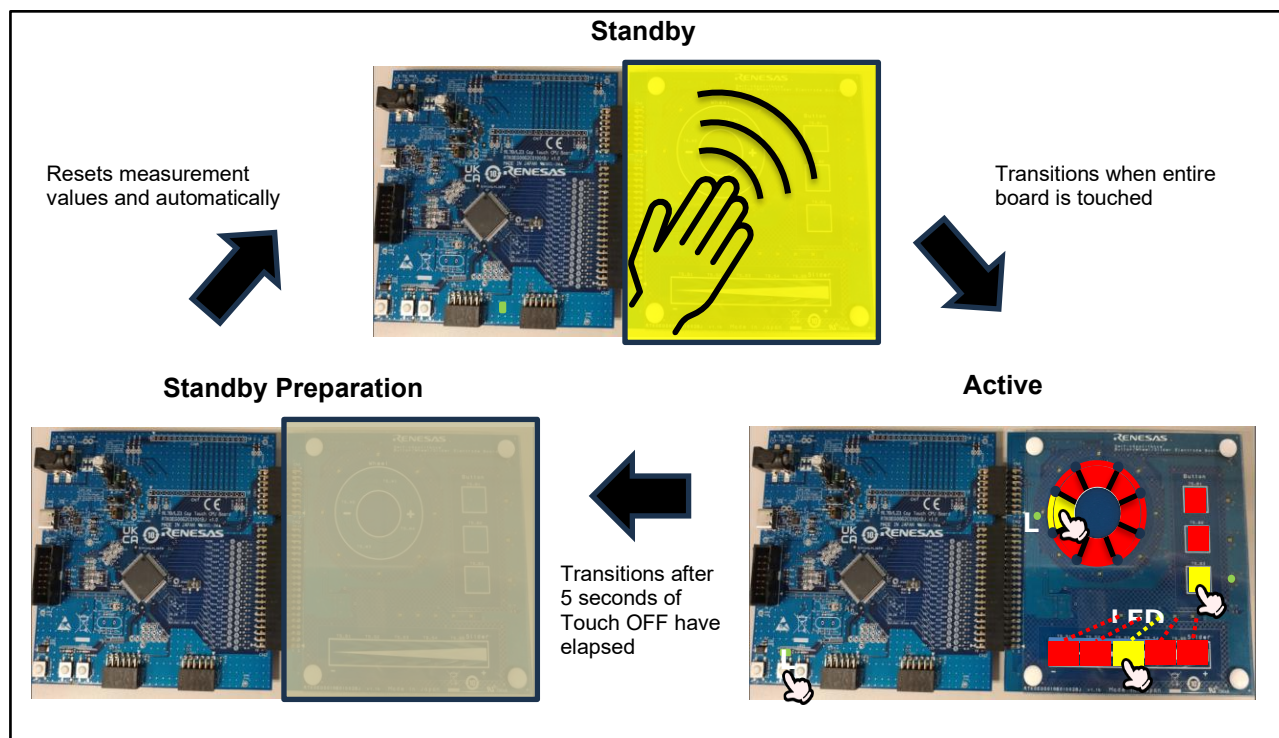

Figure 3.1 Software operation image
Figure 3.1 shows the software operation image.
**mec setting:** This sets all buttons and is used during standby mode measurement (see Figure 3.1). This enables the SMS function for measurements in standby mode, and the multi-electrode connection function for measurements in low-power mode.
**bsw setting:** This sets three buttons, a slider and a wheel, and is used during active mode measurement (see Figure 3.1). After SMS touch judgment, it sets the touch interface configuration assuming use of slider and wheel.